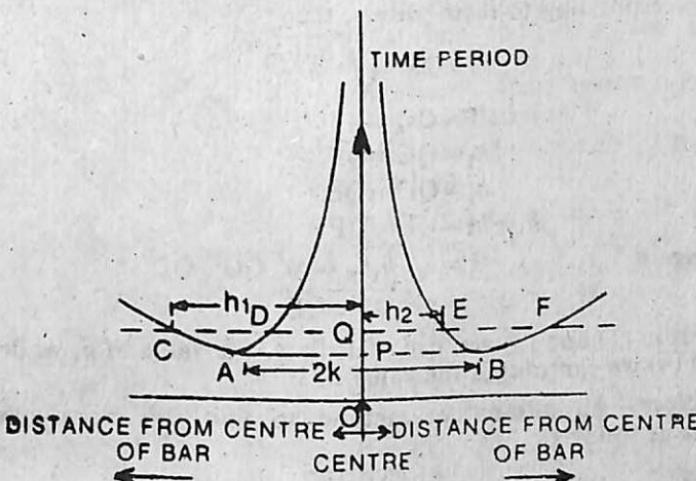

Fig. 21.2.
graph be plotted taking the periods of oscillation as ordinates and corresponding distances of the axis of suspension from the C. G. of the bar as abscissae, a graph of the type shown below (Fig. 21.2) will be obtained :
(iv) Join A and B (See Fig. 21.2). The line AB cuts the T-axis at P. The abscissa of P gives the position of the centre of gravity of the bar. Draw any line CDEF perpendicular to the T-axis and cutting the curve in four points C, D, E and F. Measure QC and QF (the mean of which gives  $h_1$ ), QD and QE (the mean of which gives  $h_2$ ), and also OQ (which gives the corresponding periodic time  $T$ ). Then from the formula (3) given above calculate the value of  $g$ .
Thus if a graph is plotted between  $T$  and  $h$ , its nature is as shown in Fig. 21.2. It is clear from the graph that there are two values of  $h$  on either side of the C.G. which give the same value of  $T$ .